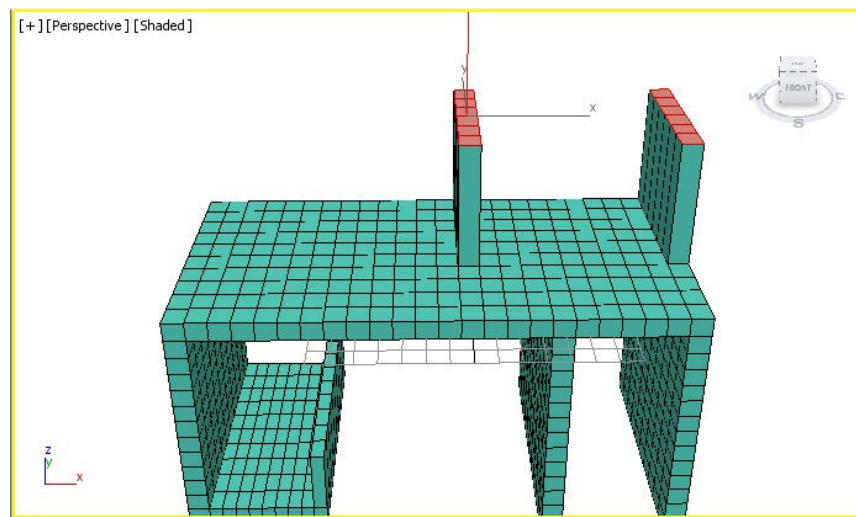

Figure 9-74 Extruded polygons of computer table
2. Choose the **Extrude Settings** button from the **Extrude** drop-down in the **Polygons** panel; the **Extrude** caddy control is displayed in the viewport. In this caddy control, set the value **60** in the **Height** spinner and choose the **OK** button; the selected polygons are extruded, as shown in Figure 9-74.